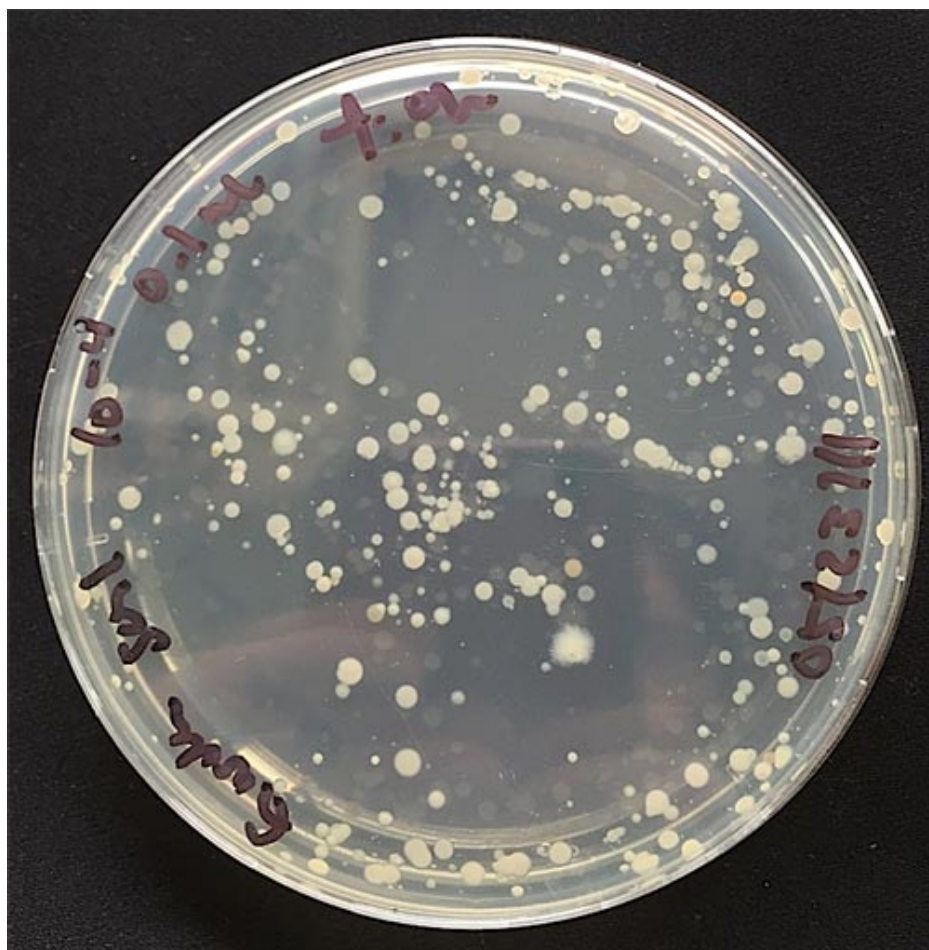

Figure 7. Count the number of bacteria colonies on each of your nutrient agar plates.
- d. After incubation, count the number of colonies on both plates and record the numbers in your lab notebook. The number of bacteria you will find on your plates will depend on the soil you chose. An example is shown in Figure 7. *Note:* Only count plates that have between 25 and 250 colonies on them. If there are less than 25 or more than 250 colonies on both of the plates, you need to re-plate from a different dilution (depending on your results, this could be 10^{-3} , 10^{-5} , or 10^{-7}). You can use the leftover soil or prepared dilutions (10^{-2} , 10^{-4} , and 10^{-6}) that you kept in the refrigerator/cooler to make other dilutions.